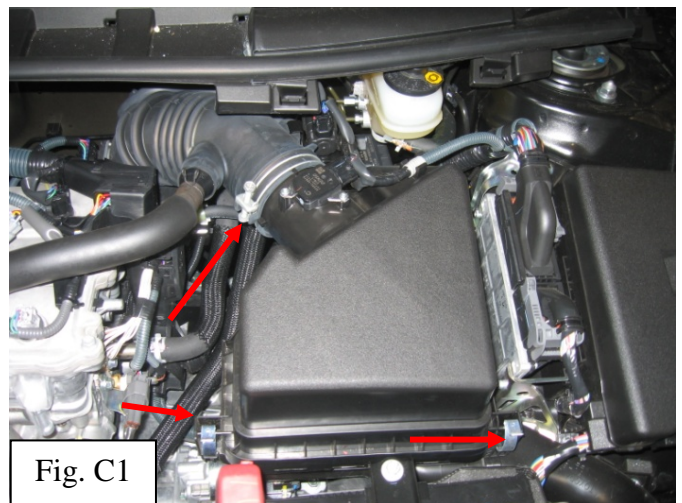

Fig. C1
- i. Unfasten the 2 hook clamps. (Fig. C1)
- ii. Loosen the hose clamp that secures the intake hose to the air cleaner lid. (Fig. C1)
- iii. Reconnect intake hose to the air cleaner lid. (Fig. C1)
- iv. Fasten the 2 hook clamps. (Fig. C1)